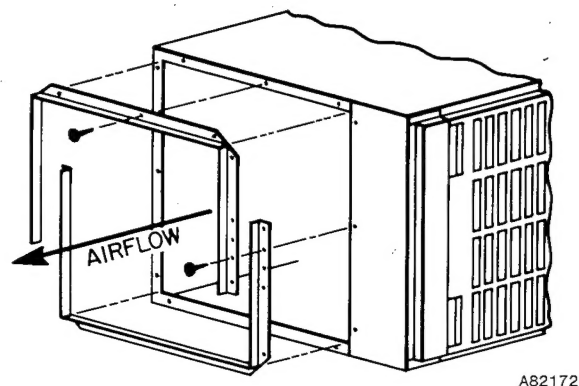

Figure 9—Duct Flange Installation
- a. Install field-supplied duct flanges as shown in Figure 9.